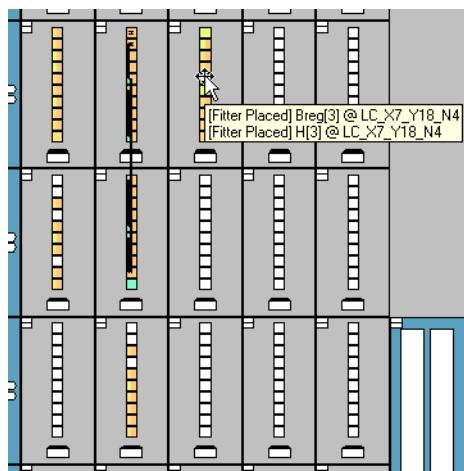

Figure 24: A portion of the expanded view.
7. A Zoom Tool, activated by the icon , can be used to enlarge parts of the image even more. Figure 24 shows a zoomed-in view of the floorplan that highlights the implemented circuit. To see the details given in the figure you have to select the Floorplan Editor command **View > Interior Cells**. By positioning the cursor on any logic element the designer can see what part of the circuit is implemented in this resource. The floorplan tool has several icons that can be used to view aspects such as fanin and fanout of nodes, connecting paths between nodes, and so on. For more information on using this tool refer to the online help, by selecting **Help > Contents > Viewing the Fit**.
3. Right-click on the same name and choose **Locate > Locate in Timing Closure Floorplan** from the pop-up menu that appears. This causes the Quartus II software to display the floorplan, as in Figure 24, and highlight the part that implements the adder subcircuit.